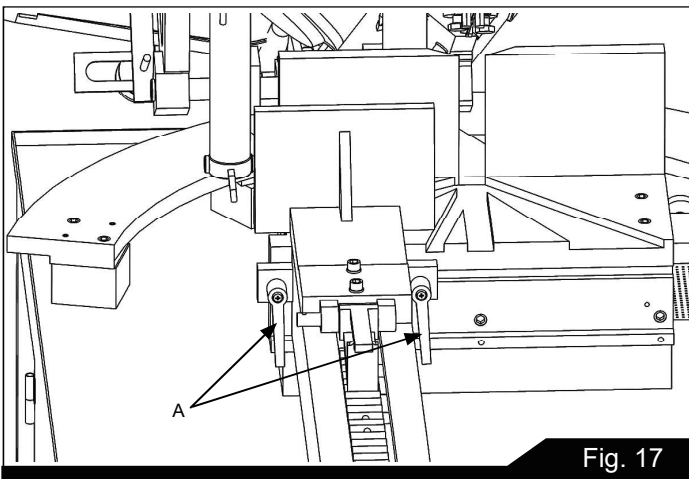

Fig. 17
Due to the mitering function of this saw, the vise can be moved fore and aft. Make sure to tighten both workpiece levers (A) in Fig. 17, before clamping the workpiece.